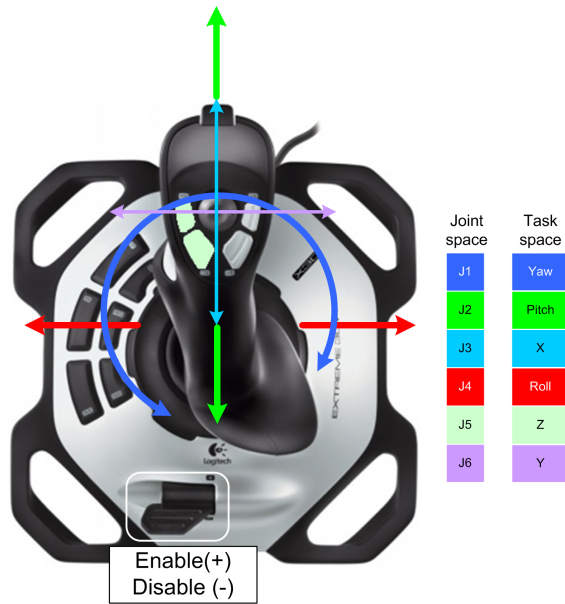

Figure 3.6: Joystick mapping for teleoperation
The Teleop_Joystick_Command.slx model is an example model that uses the QUARC Host Peripheral framework to interface to a joystick. The model is calibrated such that the joystick generates Cartesian task-space rate commands. These Cartesian rate commands are sent through QUARC Stream Client block to the MICO_Teleop_6DOF.slx model. This model was created with the Logitech® Extreme™ 3D Pro (X3D) (see Figure 3.6) in mind, but can be converted to use other input devices as well.
12. Move the joystick and examine the motions of the robot arm. The joystick button mapping is provided in Figure 3.6.